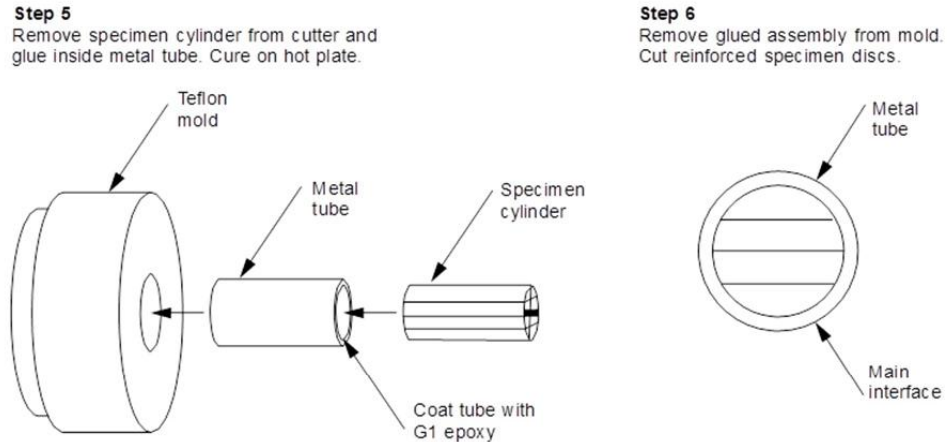

Figure 4-10 Cross section specimen preparation
5. Strengthen the cylindrical specimen stack. The 2.3 mm cylinder is now glued with G-1 epoxy inside a 3mm diameter metal reinforcing tube and cured for 10 min on a hot plate at 130 °C (Figure 4-10, Step 5). The tube holds the fragile cross-sectioned structure together during grinding, dimpling, ion milling (especially low-angle milling), and subsequent clamping in the TEM specimen holder.
6. Slice the specimen discs. The metal reinforcing tube containing the specimen cylinders is sliced into a series of 250-400 μm thick discs with a thin blade diamond saw (Figure 4-10, Step 6). The sliced disc is then ground flat from both sides to a thickness of approximately 80 μm using the Gatan Precision Disc Grinder and dimpled according to the procedure described in Section 4.2.